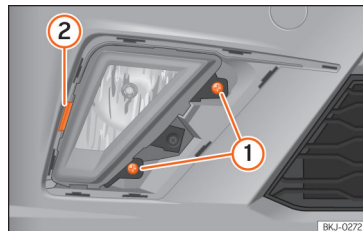

Fig. 53 Front fog light: remove the bulb holder
- Remove the two bolts »»» **Fig. 53** ① and lever the clip ② to remove the front fog light.